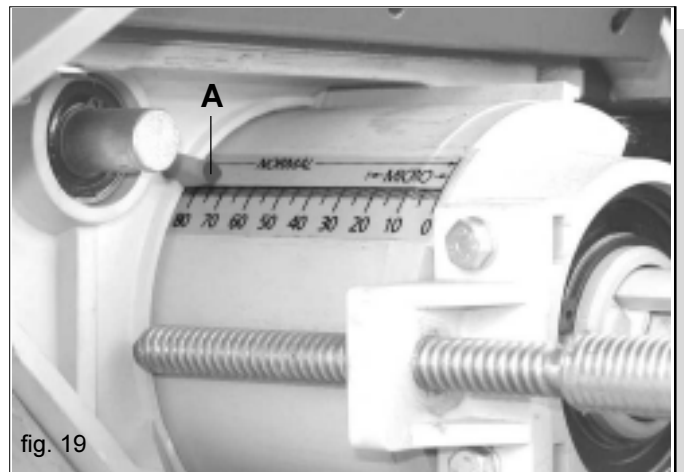

fig. 19
The screw rod (D) enables the degree to which the gate opens to be adjusted depending on the value of the graduated scale, calculated using the table and the distribution test (chapter 3.3.2). The reference element for setting the gate valve opening is point A (Fig. 19).